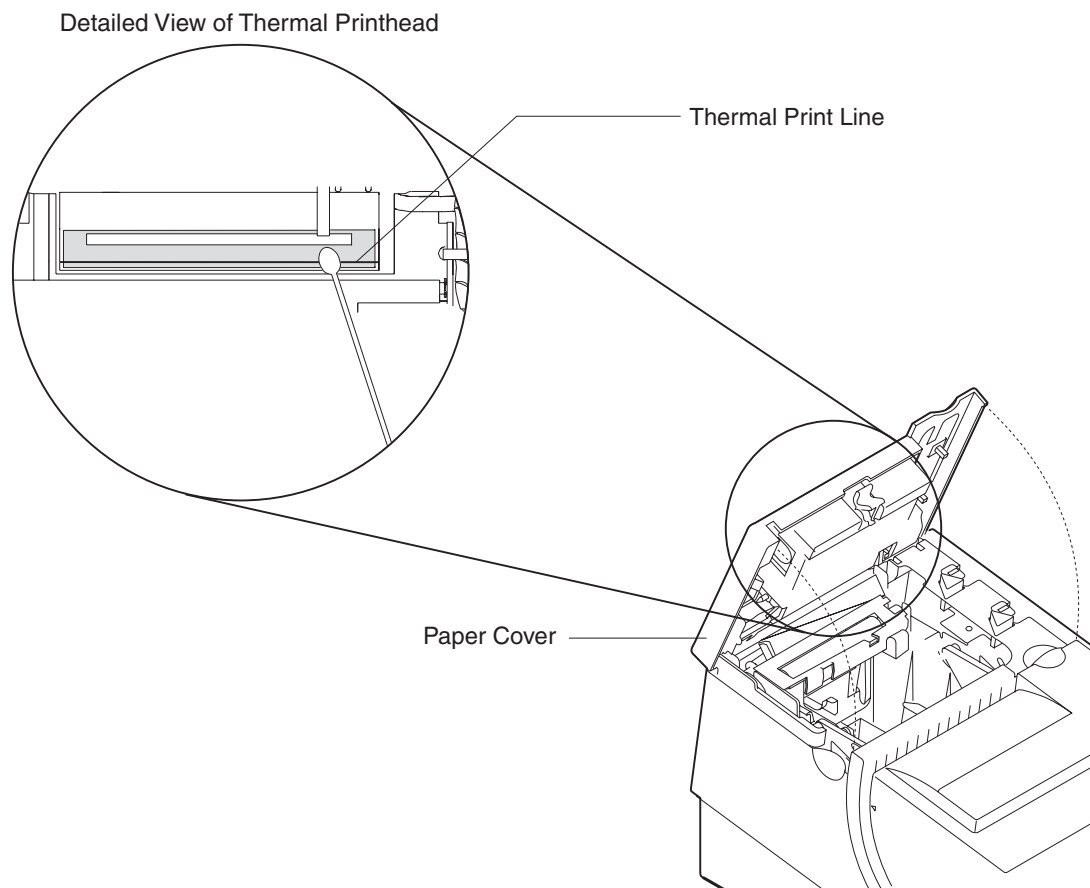

Figure 30. Printhead and Print Line Area (Models T11, T12, T13, T14, T18, TG3, and TG4)
2. Using a cotton swab soaked in isopropyl alcohol, gently wipe the printhead several times on its print line and on the surrounding area. See Figure 30.